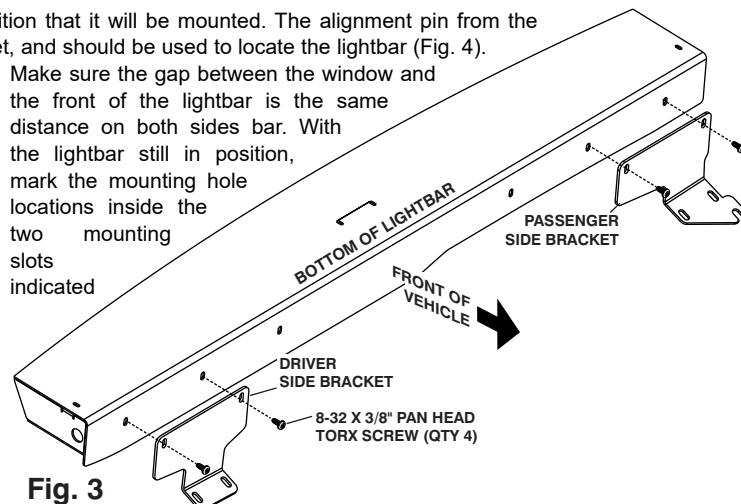

Fig. 3
3. Secure the mounting brackets to the lightbar using the provided #8-32 x 3/8" Pan Head Torx screws (Fig. 3).